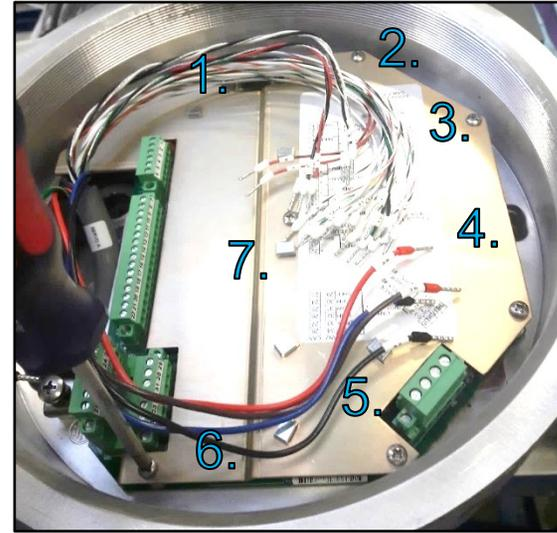

Figure 2-18. PCB Cover Holding Screws Placement Inside VariStroke
36. Unscrew 7 screws from the VariStroke PCB cover (use Phillips screwdriver; **PH2** tip size) (Figure 2-18).